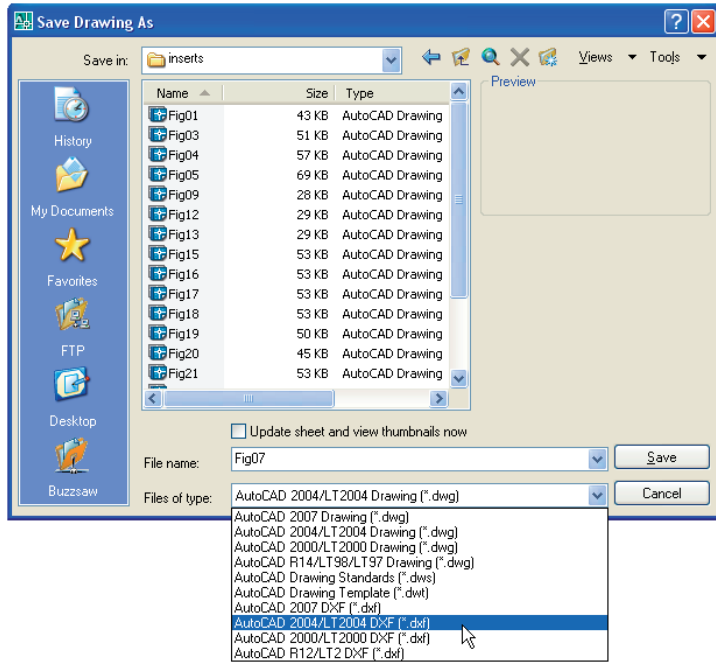

Fig. 10.8 The **Save Drawing As** dialog set up to save drawings in **DXF** format.
Example – DXF file (Fig. 10.8)
3. Enter a suitable file name. In this example this is Fig 07. The extension .dxf is automatically included when the **Save** button of the dialog is clicked (Fig. 10.8).